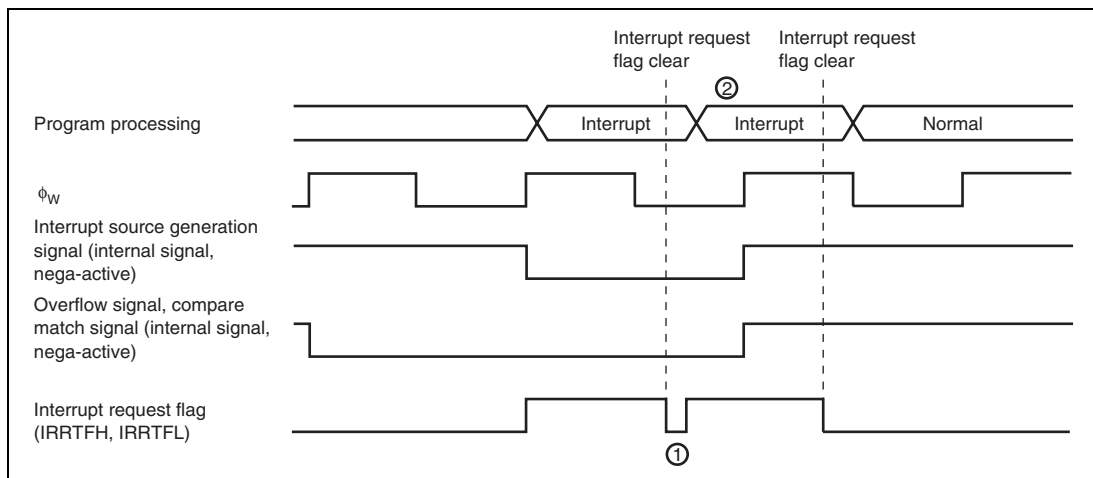

Figure 12.7 Clear Interrupt Request Flag when Interrupt Source Generation Signal is Valid
When the internal clock $\phi_w/4$ is selected as the counter input clock, "Interrupt source generation signal" will be operated with ϕ_w and the signal will be outputted with ϕ_w width. And, "Overflow signal" and "Compare match signal" are controlled with 2 cycles of ϕ_w signals. Those signals are output with 2-cycle width of ϕ_w (figure 12.7)
In active (high-speed, medium-speed) mode, even if you cleared interrupt request flag during the term of validity of "Interrupt source generation signal", same interrupt request flag is set. (1 in figure 12.7) And, the timer overflow flag and compare match flag cannot be cleared during the term of validity of "Overflow signal" and "Compare match signal".
For interrupt request flag is set right after interrupt request is cleared, interrupt process to one time timer FH, timer FL interrupt might be repeated. (2 in figure 12.7) Therefore, to definitely clear interrupt request flag in active (high-speed, medium-speed) mode, clear should be processed after the time that calculated with below (1) formula. And, to definitely clear timer overflow flag and compare match flag, clear should be processed after read timer control status register F (TCSR F) after the time that calculated with below (1) formula.